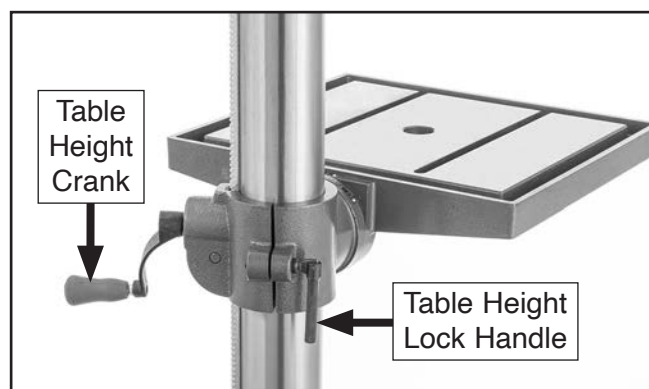

Figure 39. Table height controls.
1. Loosen table height lock handle (see **Figure 39**).
2. Raise or lower table by rotating table height crank (see **Figure 39**), then tighten table height lock handle to secure.